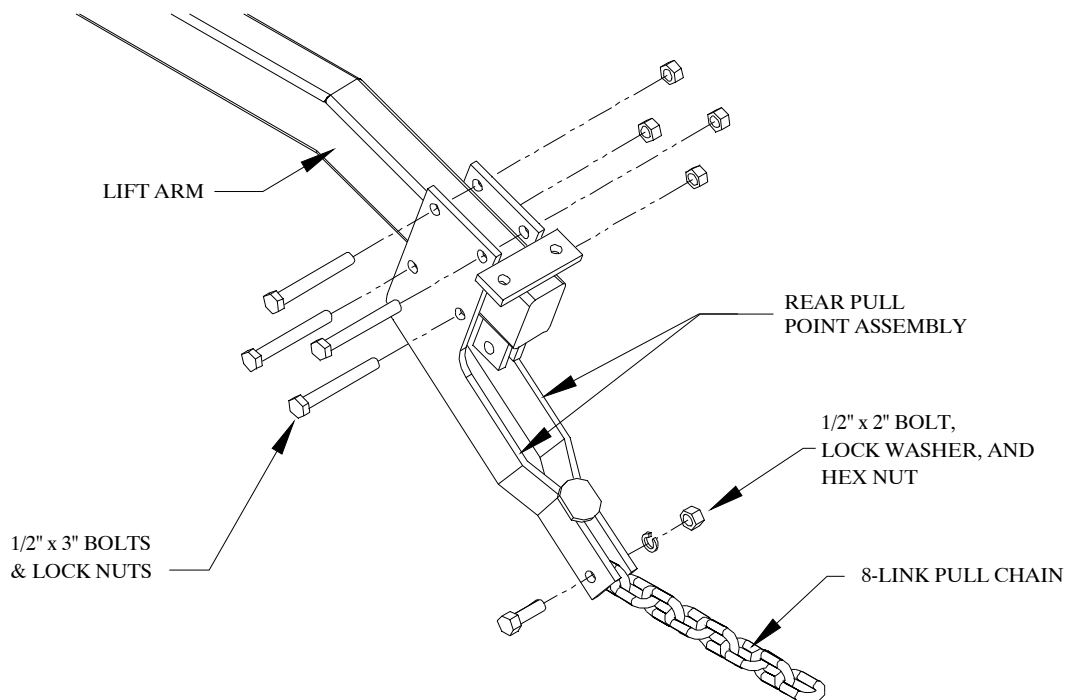

Figure 13
5. Attach a rear pull point assembly to the rear end of each lift arm. Use four 1/2" x 3" bolt and lock nuts. Refer to Figure 13.
6. Bolt an 8-link pull chain to the end of the rear pull point assembly with a 1/2" x 2" bolt, lock washer, and hex nut. Refer to Figure 13. This chain will connect to the first bar of the second set of harrow sections.